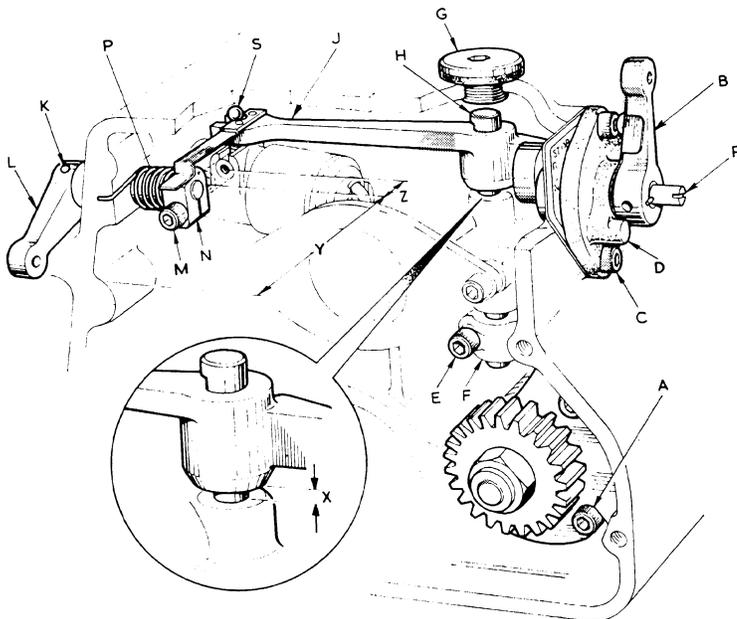
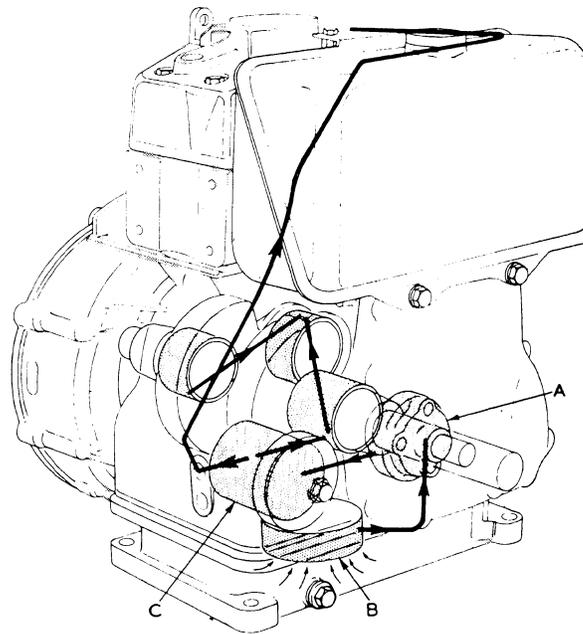

FIG. 14
FIG. 15
**57. TO REMOVE GOVERNOR** Fig. 14
- (b) Remove the screws (A) securing the governor assembly to the crankcase and withdraw it.
**58. TO REMOVE GOVERNOR LINKAGE Fig. 14**
- (c) Move the stop/run lever (B) to the 'RUN' position, i.e. horizontal.
- (d) Remove the screws (C) securing the governor stop cover (D), or speed control bracket if fitted and remove it.
- (e) Loosen the governor bracket screw (E) and remove the bracket (F), speeder spring and speeder spring plunger.
- (f) Remove the operating shaft plug (G) and withdraw the shaft (H) and fuel pump operating lever (J).
- (g) Remove the pin (K) securing the overload stop lever (L) if fitted, and remove the lever. DO NOT loosen the screw (M) clamping the overload stop cam (N) to the spindle. The cam is set and should not be disturbed unless a new fuel pump is fitted (see instructions given under 'To fit new fuel injection pump').
- (h) Remove the overload stop cam and spindle assembly and the return spring (P).
**59. GOVERNOR AND LINKAGE MAINTENANCE Fig. 14**
- (c) If oil leaks at the overload stop spindle or the stop/run lever spindle (R), carefully remove the spindle and renew the oil seal. When refitting the spindle ensure that it is free from burrs.
**60. TO REPLACE GOVERNOR AND LINKAGE Fig. 14**
- (b) Ensure that the fuel pump lever fork end is correctly located on the fuel pump rack ball (S).
- (i) With the governor bracket screw (E) loose, make sure that the governor bracket fork ends are hard against the governor thrust bearing when the faces of the governor sliding and rotating housings are together.
- (iv) Check the setting (X) between the operating shaft bush and the operating lever with a feeler gauge. This should be 0.010in (0.25mm).
**61. LUBRICATING OIL SYSTEM Fig. 15**
- (i) A rotary oil pump (A) is mounted in the crankcase at the gear end. The pump is driven by a gear from the camshaft.
- (ii) Oil is drawn through a strainer (B) and fed to the filter (C).